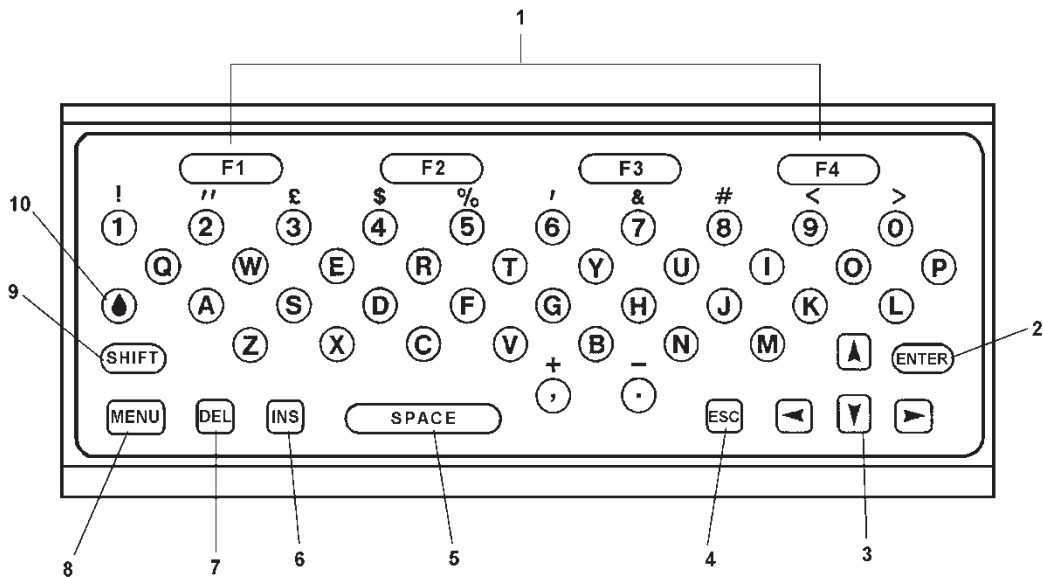

Figure 3.2 QWERTY Keyboard
4. To insert the user field in that position, press the [PEARDROP] key (See Figure 3.2 Item 10), followed by the number of the user field. The user field will be displayed at the position of the cursor.